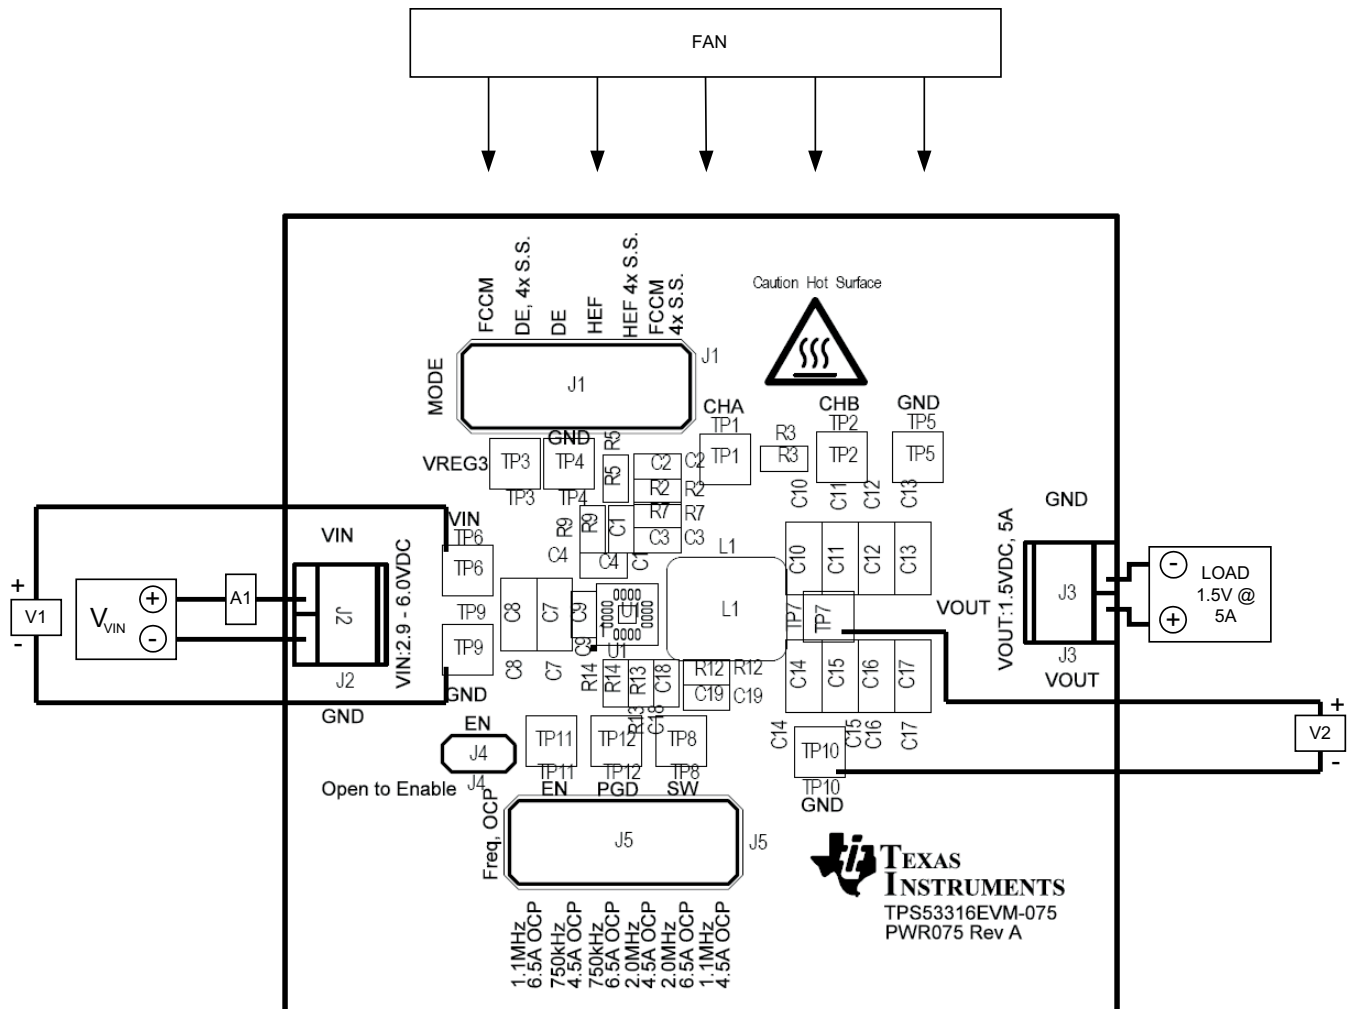

Figure 3. TPS53316EVM-075 Recommended Test Set Up
Voltage Source, VIN: The input voltage source VIN should be a 0-V to 6-V variable DC source capable of supplying 5 A_{DC}. Connect VIN to J2 as shown in Figure 3.
Figure 3 is the recommended test set up to evaluate the TPS53316EVM-075. Working at an ESD workstation, make sure that any wrist straps, bootstraps or mats are connected referencing the user to earth ground before power is applied to the EVM.
1. Prior to connecting the DC input source V_{IN} , it is advisable to limit the source current from V_{IN} to 5 A maximum. Make sure V_{IN} is initially set to 0 V and connected to J2 as shown in Figure 3.
Other Connections: Place a Fan as shown in Figure 3 and turn on, making sure air is flowing across the EVM.
1. Set up EVM as described in Section 5 and Figure 3.